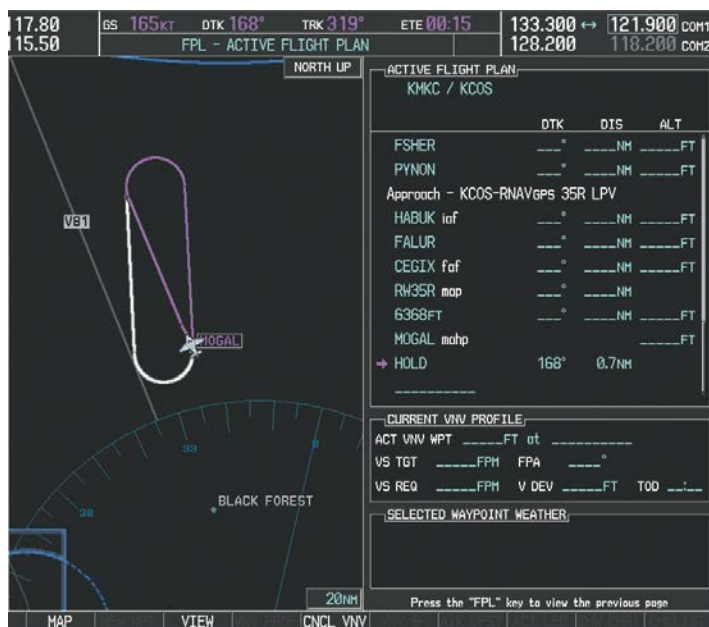

Figure 5-150 Establishing the Holding Pattern
- 26) The aircraft continues climbing to "AT or ABOVE" 10,000 feet at MOGAL. A holding pattern is established at the MAHP (MOGAL) as shown in Figure 5-150.